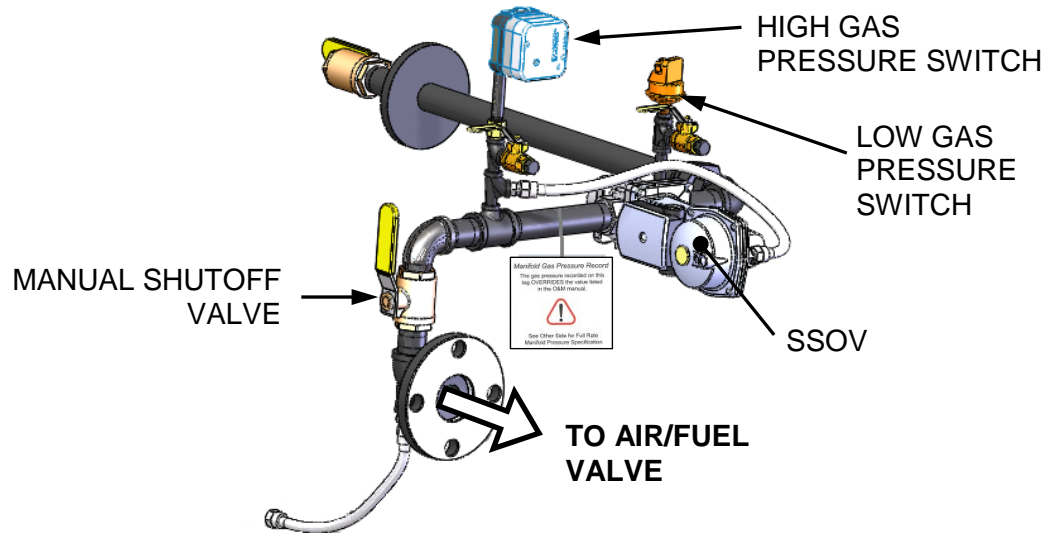

Figure 5-3. Manual Gas Shut-Off Valve Location (INN600-1060 Gas Train)
3. Close the manual gas shutoff valve located between the Safety Shut-Off Valve (SSOV) and the Air/Fuel Valve (see Figure 5-3).
8. Once flame is proven, close the 1" manual gas shut-off valve located between the SSOV (Figure 5-3) and the Air/Fuel Valve.